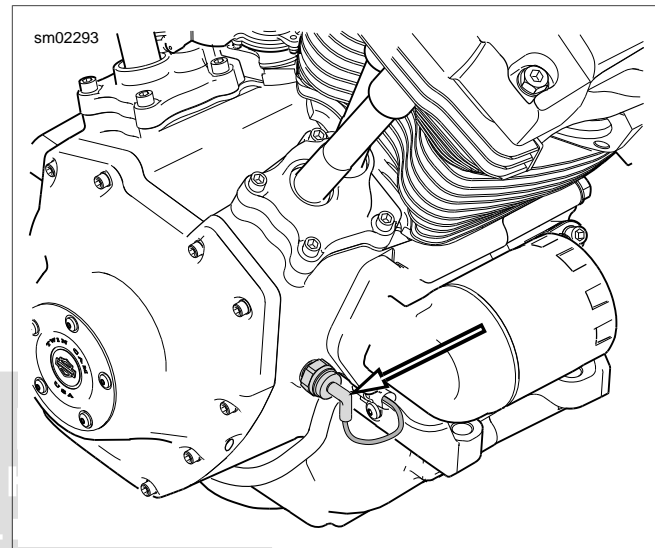

Figure 3-9. Oil Pressure Switch
2. See Figure 3-9. Remove oil pressure switch from crankcase. See 7.27 OIL PRESSURE SWITCH.